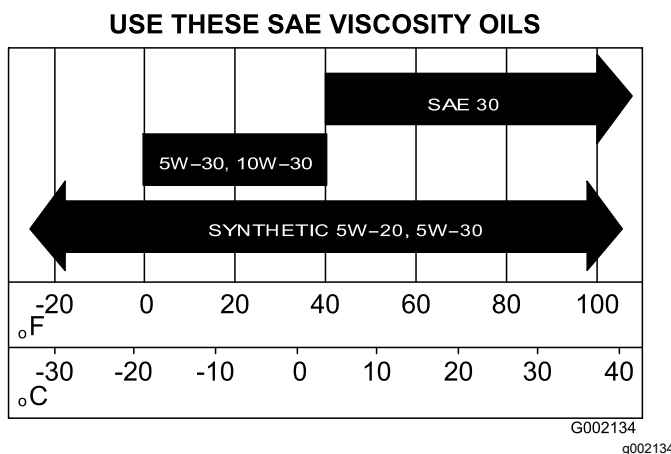

Figure 34
5. Fill the crankcase with the specified oil (Figure 34).